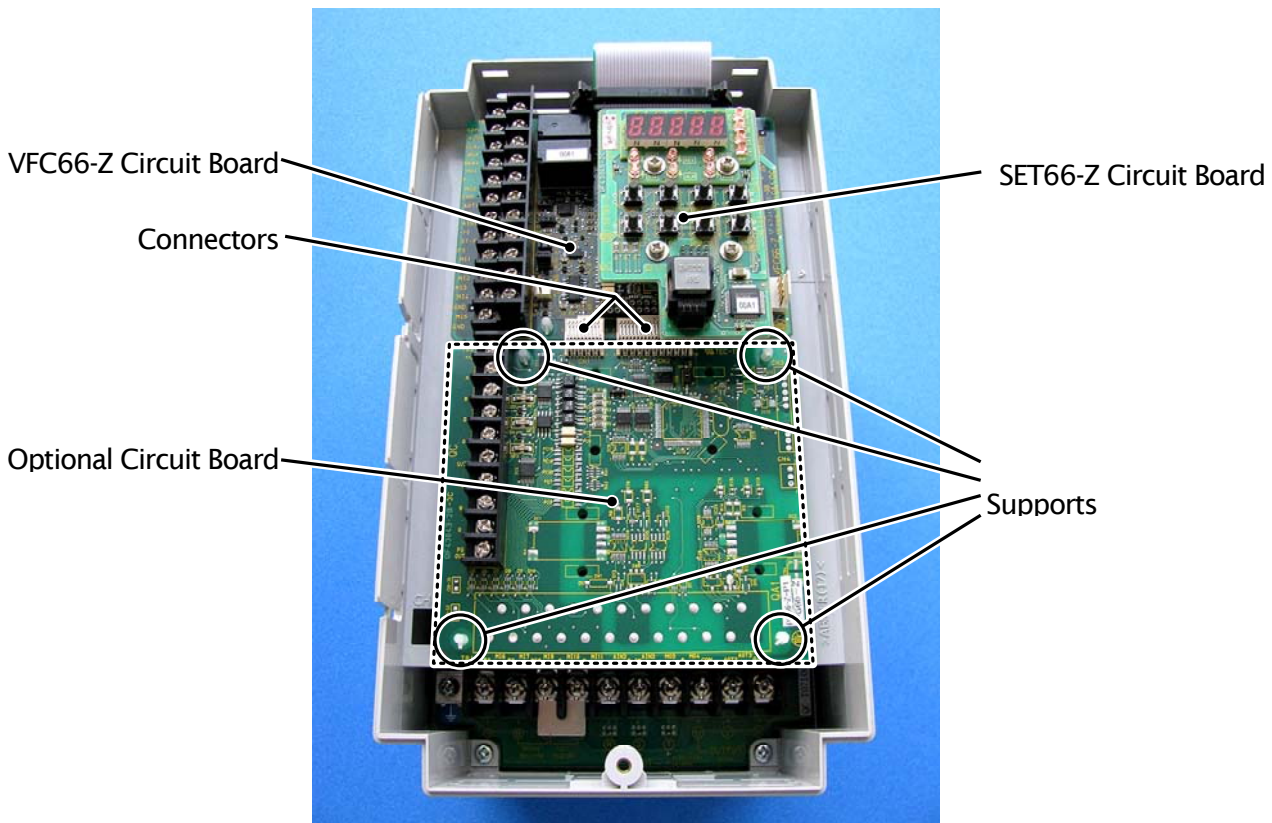
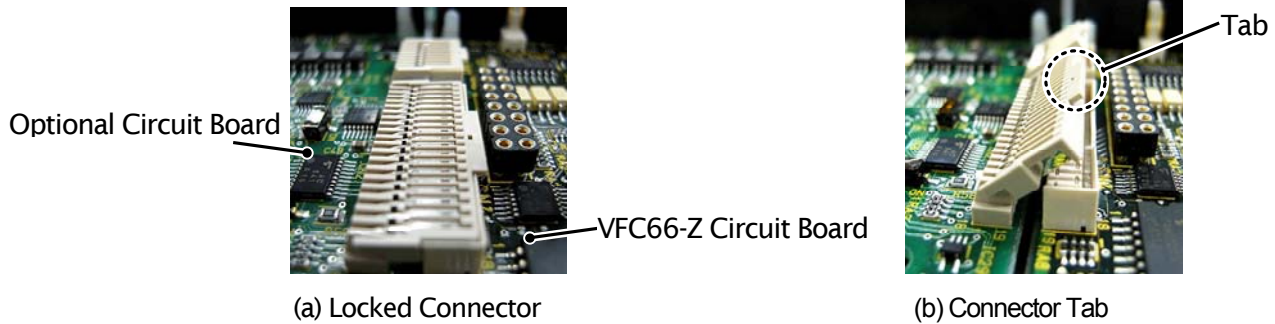
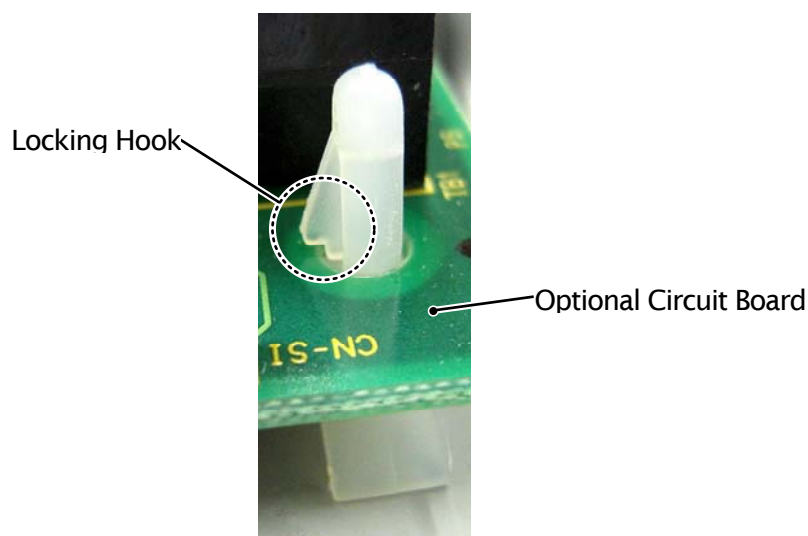

Figure 3.2 Optional Circuit Board Installation Position (VF66B-2R222)
Figure 3.4 Connector
Figure 3.5 Support Locking Hook
- (1) Confirm that the power is off before performing any work.
- (2) Install the IO66-Z board in the location designated by the dotted lines shown in Figure 3.2. (The figure shows the VF66B-2R222 model, however, the installation location is the same for other models.) If another optional circuit board is already installed, remove it by following the procedure described below. If another optional circuit board is not already installed, skip to (6).
- (3) In order to safely remove the optional circuit board, first remove the SET66-Z board. Remove the 4 screws indicated by the circles in the figure on the right. Pull the SET66-Z board away from the VFC66-Z board in order to detach it.
- (4) Next, release the two connectors between the VFC66-Z board and the optional circuit board. Figure 3.4 (a) shows the connector in its engaged position. Pull up the tab to release the connector as shown in Figure 3.4 (b).
- (5) 4 board supports are included to mount the optional circuit board to the inverter housing, as indicated by the circles in Figure 3.2. Press down on the board support locking hooks as shown in Figure 3.5 to remove the
- (6) Align the four holes of the IO66-Z board with the 4 board supports indicated by the circles in Figure 3.2. Push down on the board until the support locking hooks snap into place as shown in Figure 3.5.
- (7) Align the tabs (shown in Figure 3.4 (b)) of the IO66-Z board connectors CN1 and CN2 with the VFC66-Z board connectors CN7 and CN4. Press down on the tabs to engage with the connectors. Once the connectors are correctly joined, it will look like Figure 3.4 (a). The movable part of the connector has some elasticity and if the joint is weak, it may become disconnected. Ensure that it is properly locked in place.
- (8) Install the SET66-Z board to its original position.
- (9) Return the inverter unit cover lid to its original position.